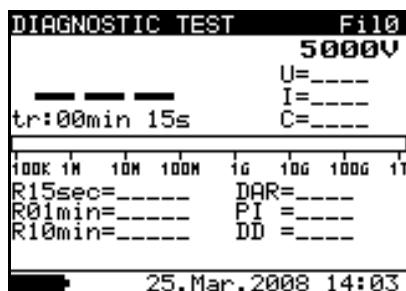
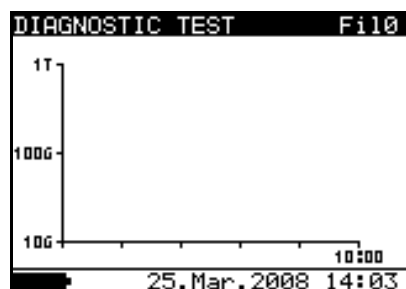

Fig. 29: Initial numerical screen
Fig. 31: Initial graphical screen
2. Select with arrow keys **▼** or **▲** the item “DIAGNOSTIC TEST” on main menu and confirm with **SELECT** key. The screen of Fig. 29 is shown by the meter. In case of activation of Graphic R(t) option press arrow keys **▼** or **▲** to select the graphical screen of Fig. 31